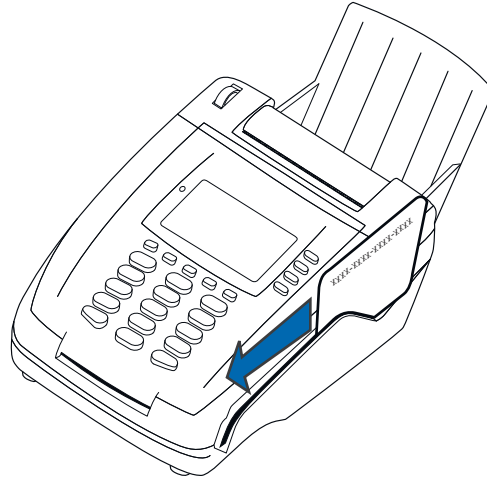

Figure 31 Using the Magnetic Card Reader
- 2** To ensure a proper read of the magnetic swipe card, the user should insert the magnetic card from the top of the unit, as shown in Figure 31.